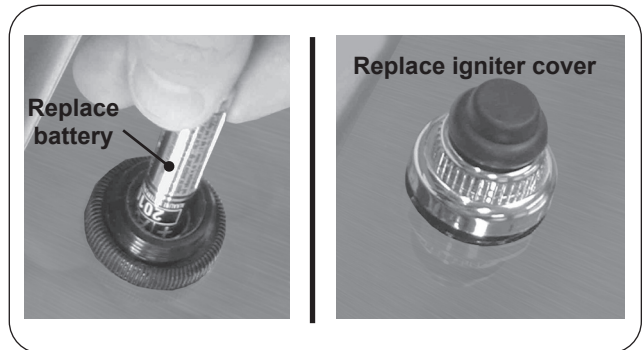

Fig. 35-2 Replace battery
2. Remove battery for replacement. Install the new AAA battery with the negative (-) end out (see Fig. 35-2).
3. After properly inserting the battery, replace the igniter cover by turning the cap clockwise (see Fig. 35-2).